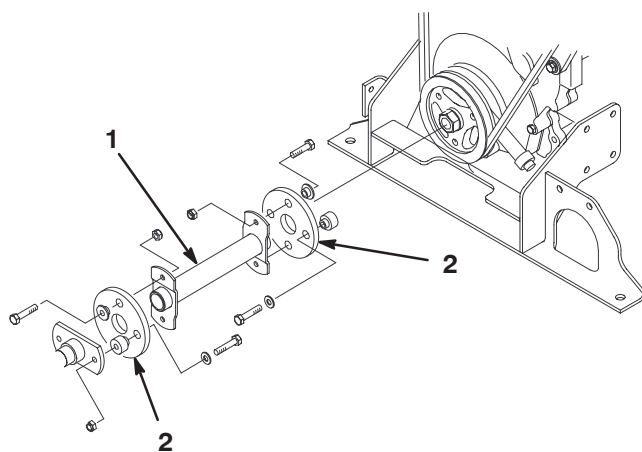

Figure 1
3. Remove the (2) bolts, washers and spacers securing the auxiliary power unit (APU) drive shaft coupling to the engine crankshaft pulley (Fig. 1).
4. Remove the (2) bolts, washers, spacers and nuts securing the forward drive shaft coupling to the jack shaft assembly (Fig. 1).
5. Remove the (2) bolts, spacers and nuts securing each coupling to the drive shaft (Fig. 1). Note the position of the spacers and the washers before removal. Discard the drive shaft but retain the couplings, spacers and fasteners.